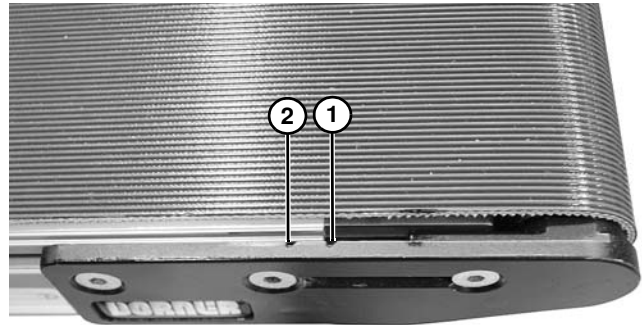

Figure 84
2. Adjust head plate assembly so end of conveyor frame aligns with or between the head plate tensioning marks (**Figure 84, item 1 & 2**). Replace belt if proper tensioning can not be obtained while aligning the end of the conveyor frame with or between the tensioning marks. See NOTE.